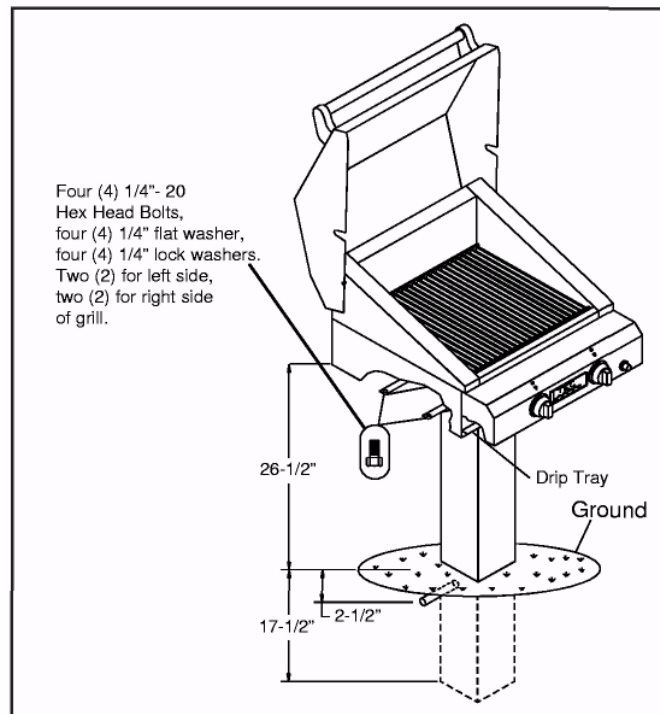

Figure 3. In-ground Post Base (Sterling II FR shown)
1. Install the In-Ground or Bolt-Down Post Base in accordance with the instructions accompanying the Post Base. (See Figures 3 & 4, page 5)